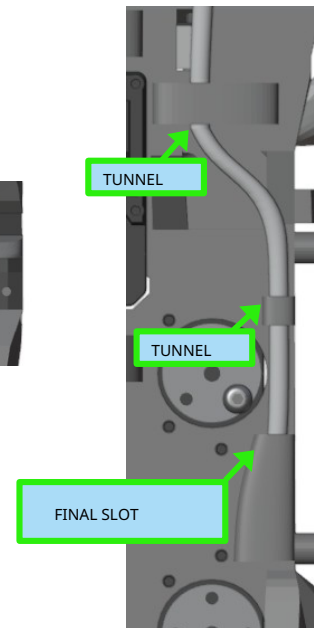

Figure 5.25 Inserting tube into the two passage tunnels and finally into the final slot (rear view)
2. Take the remaining part (on the back of the skeleton) and thread it first through the 2 passage tunnels and then into the final slot figure 5.25).